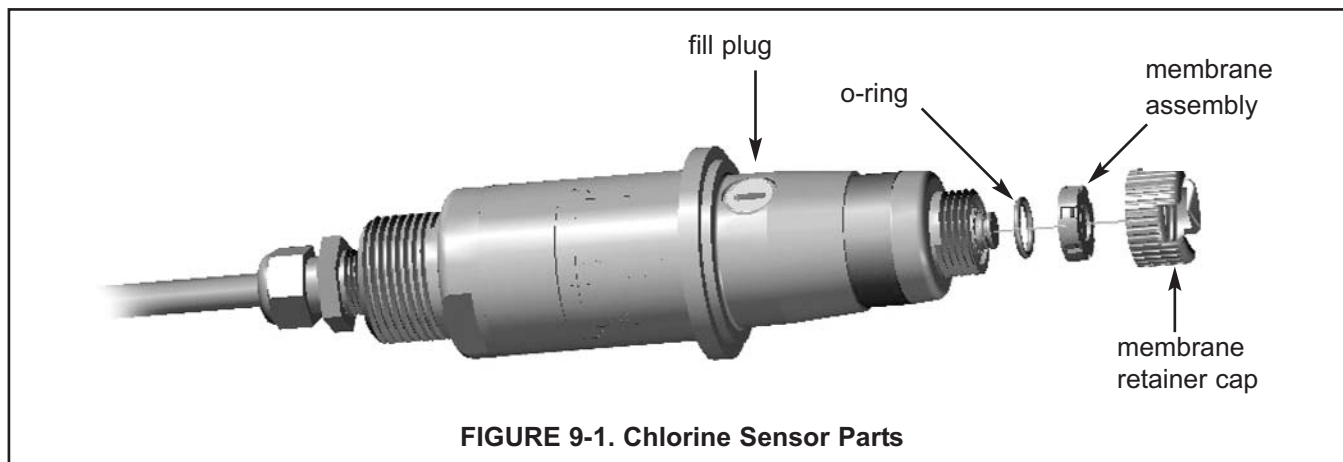

FIGURE 9-1. Chlorine Sensor Parts
1. Unscrew the membrane retainer and remove the membrane assembly and O-ring. See Figure 9-1.